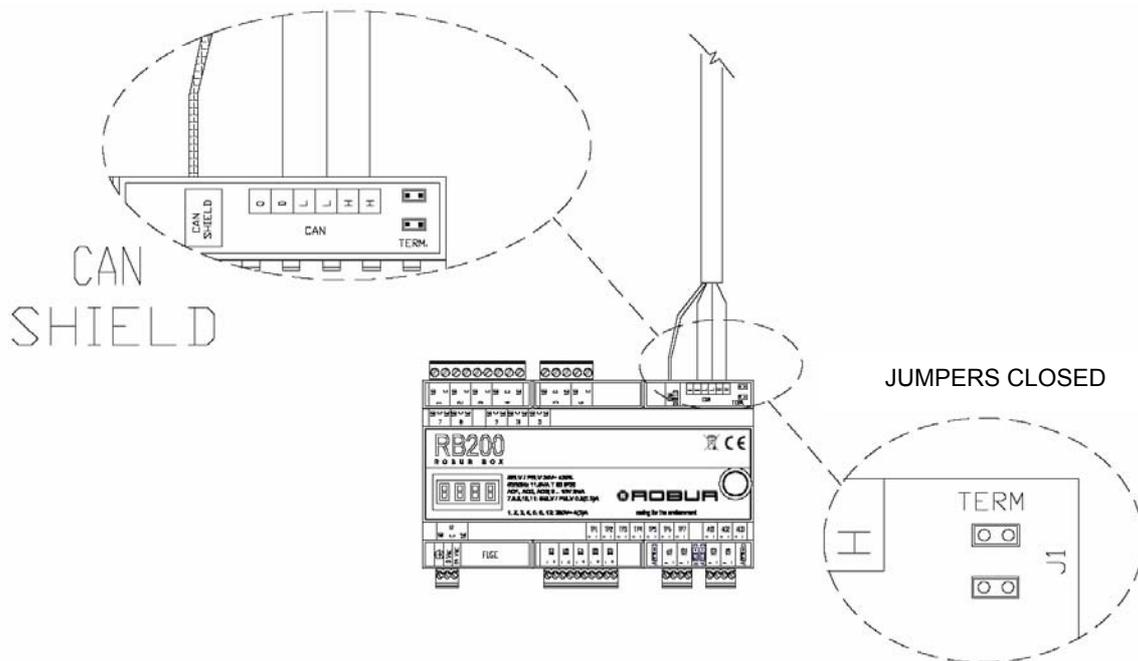

Figure 22 - Connection of 1 CAN BUS cable to RB200: Appliance IS A FINAL NODE. Positions for CAN BUS cable wires and jumpers are pointed out: CLOSED.
6. Connect the three coloured wires to the "CAN" terminal block, referring to Figure 19 parts C and D and to the figure shown in Figure 22.
- If the appliance is a **final node** of the network (in the “CAN” connected on the board there are 3 wires): place the jumpers closed, as shown in Figure 22 and Figure 24, **in the first photo on the left**.